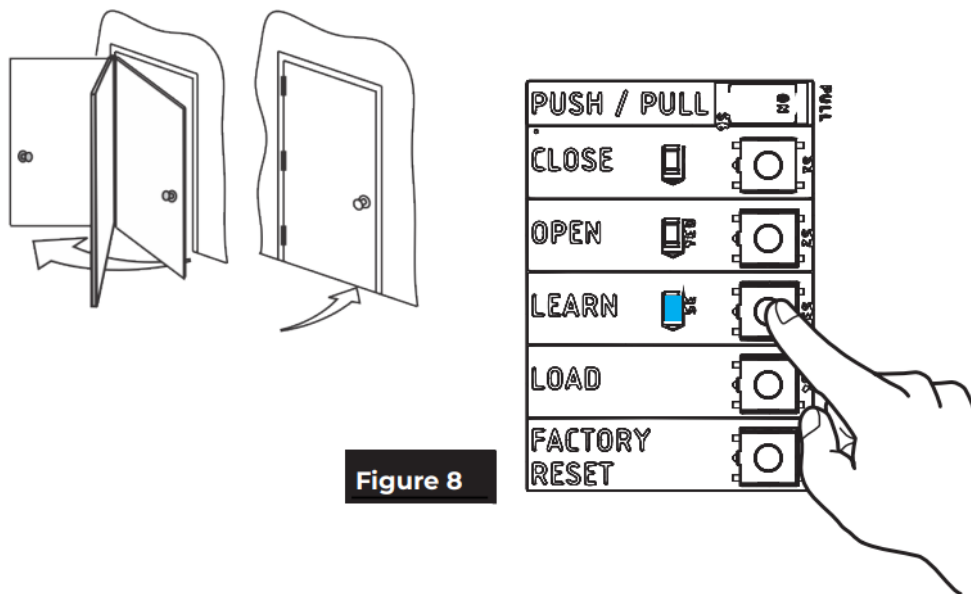

Figure 8
5. The LEARN LED will be flashing to indicate operator must now learn its internal settings. Press and release LEARN button on board. BLUE LEARN LED will become solid and door will open in small increments. Allow door to open and close without interference. (Figure 8)